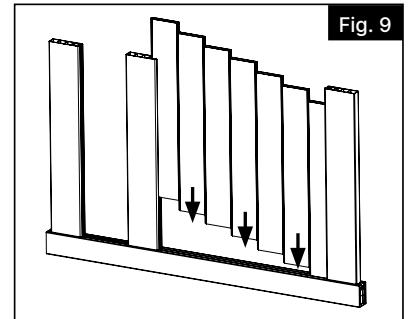

Fig. 9
- e. Install infill boards as shown. The ends of the infill will fit inside the channel of the upright (Fig. 9).